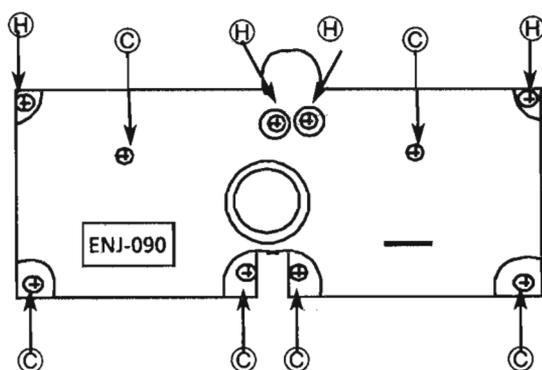

Fig. 3-1 Front panel Rear view
3. Remove the 4screws (H) and 4screws (C).
5. Remove the 2screws (C) holding the cassette amp PCB.
- (See fig. 3-1)